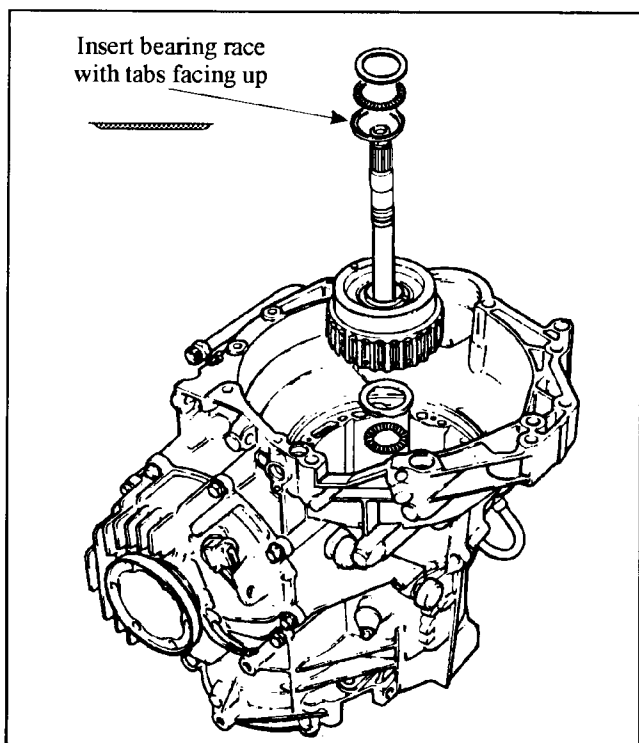

Figure 151
24. Install the K3 drum into the case, and twist until the clutches are splined onto the small drive shaft (See Figure 151).
25. Insert the torrrington bearing and both races onto the K3 drum (See Figure 151).